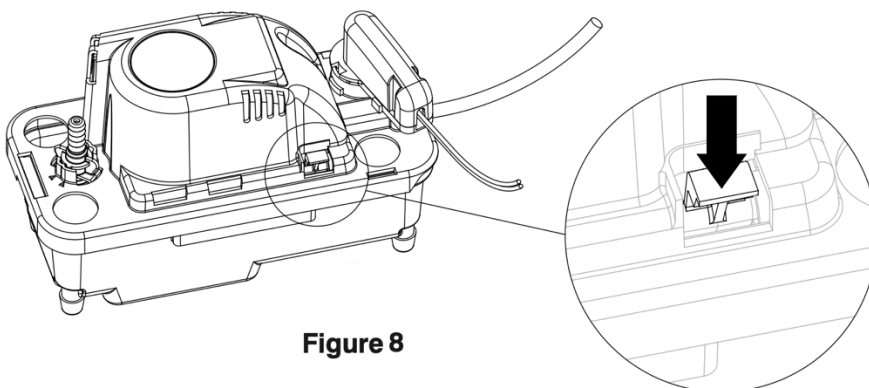

Figure 8
2. Press lightly on the external test/run lever to engage the motor (Figure 8).